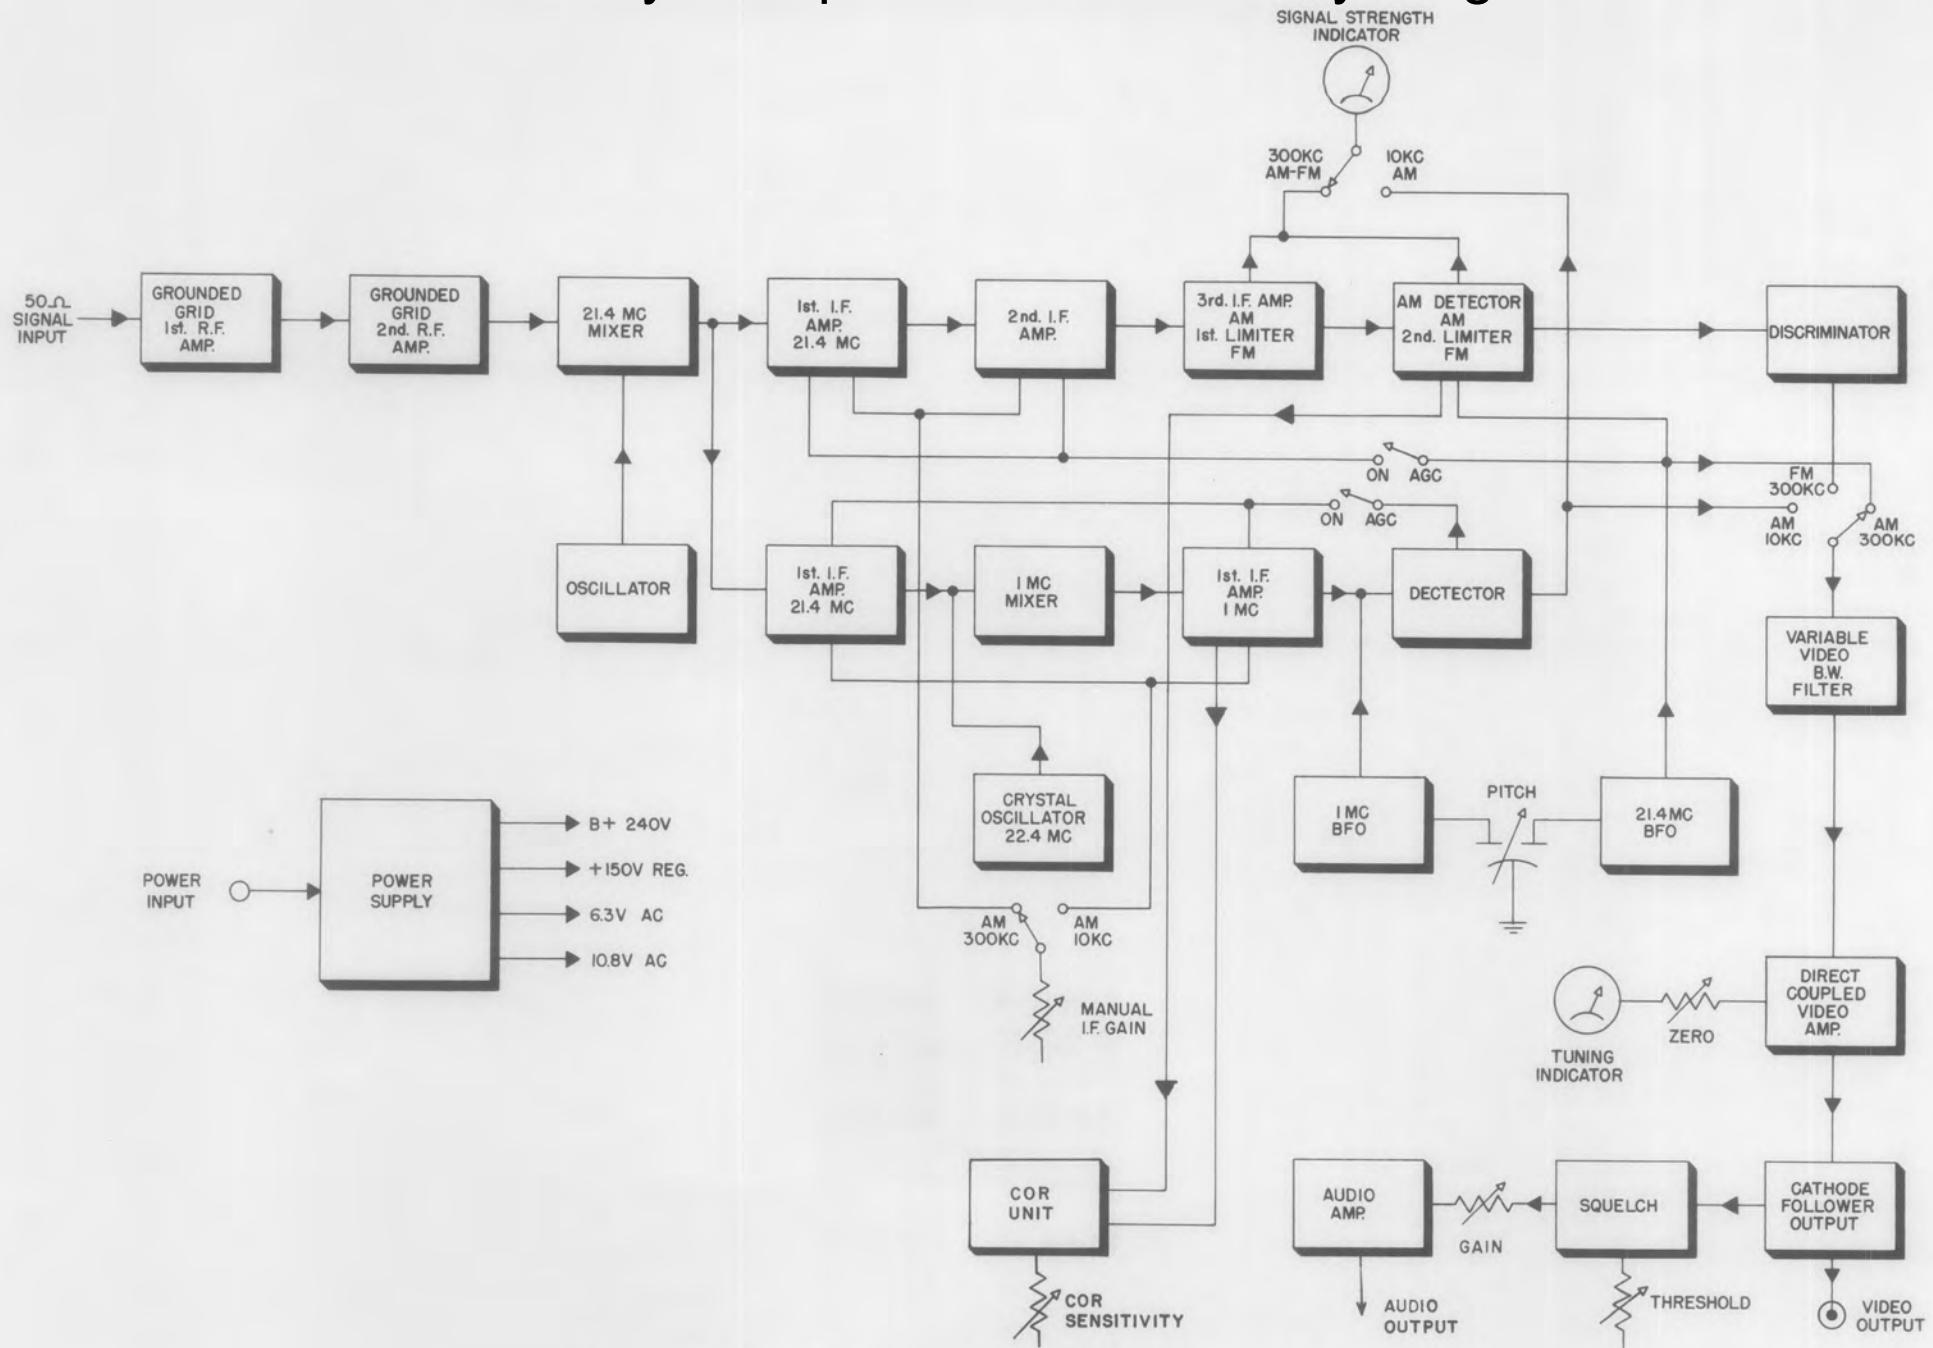

Figure 2. Block Diagram, Model G-110B Receiver
a. A block diagram of the Model G-110B Receiver is shown in Figure 2. The circuit, with the function switch in the AM 300KC or FM position, is a single superheterodyne with an IF of 21.4 mc. With the function switch in the AM 10KC position, a dual-conversion circuit is used, with a 21.4-mc first IF, followed by a 1-mc second IF.